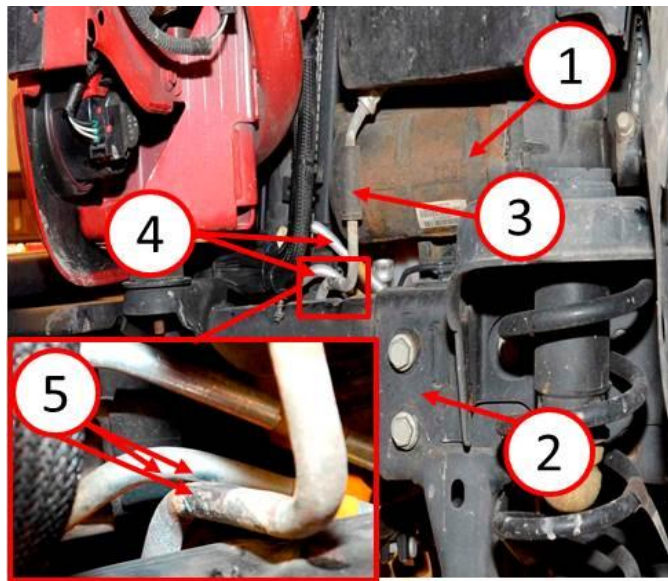

Fig. 3 Inspect TOC Tube
4. Using a small inspection mirror, check for wear marks on the transmission oil cooler tube and power steering return tube where they intersect . Were there any wear marks on the transmission oil cooler or power steering return tube (Fig.3)?